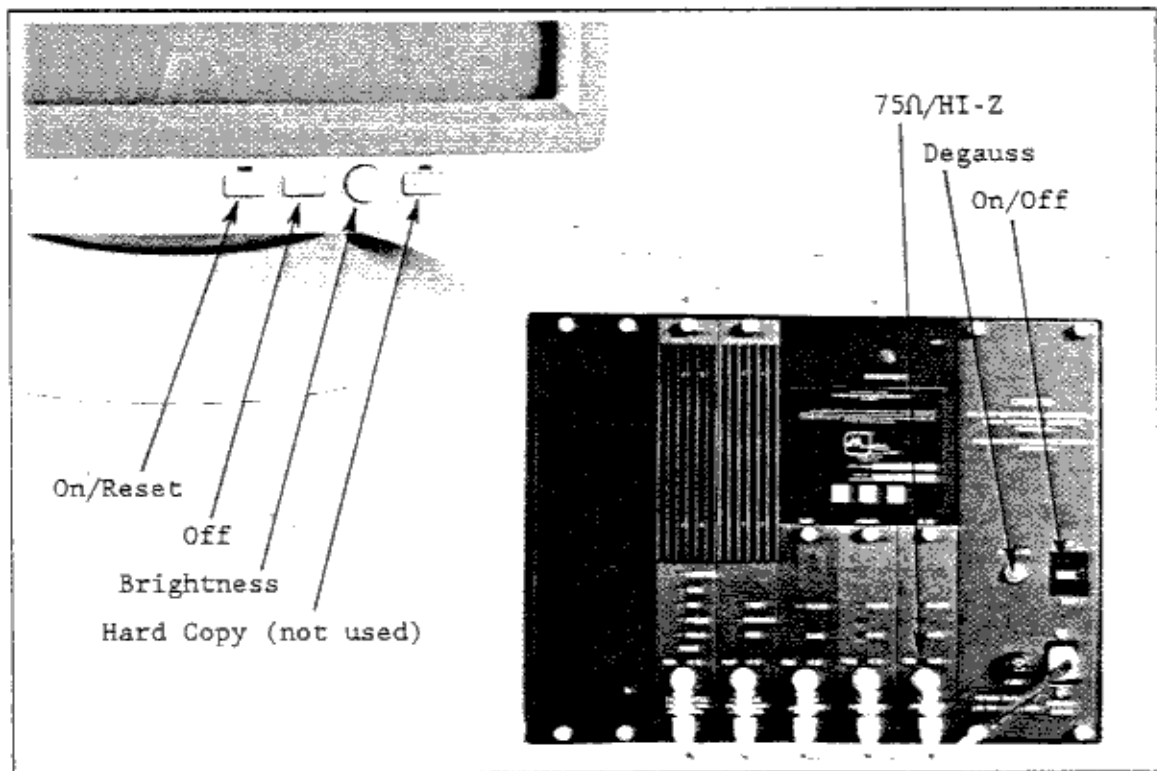

FIGURE 2-4 MONITOR CONTROLS
2.3.2 Monitor Controls (see Figure 2-4)